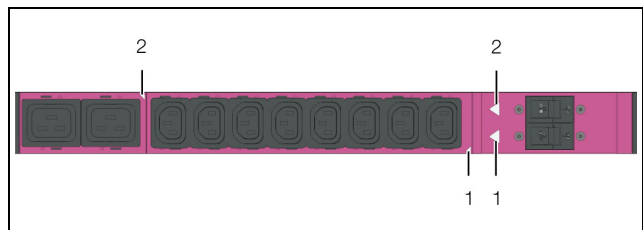

Fig. 67: Assignment of slots to the fuse
For the PDU variant "32 A", the assignment of the fuses to the individual slots is also indicated with identically coloured triangles. Whereby, those triangles located on the same side of the PDU belong together (see fig. 67, item 1 and 2).